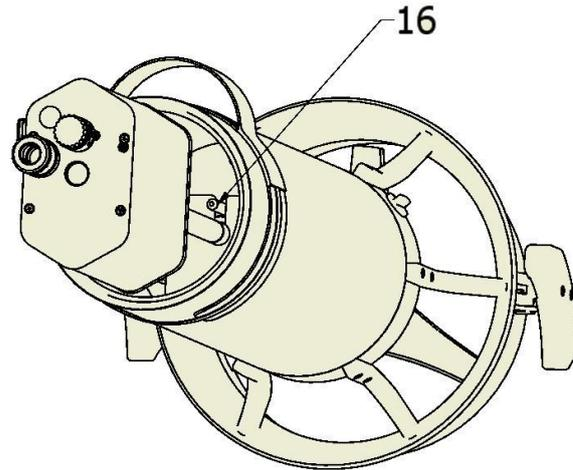

Figure 5
Stand the propeller protection on a level surface. Carefully check that the lock O-ring (19), (see fig. 5) is properly seated and that it is clean and suitably greased with silicone oil (the one commonly used for underwater gear). Check that the rim of the body (20), is clean, and if necessary pass a clean cloth to remove any dust or sand. Insert the front shell (8) matching the screw (18) up with the hole (17). Turn the wheel (9) clockwise until it closes completely and tighten using only two fingers (device patented).